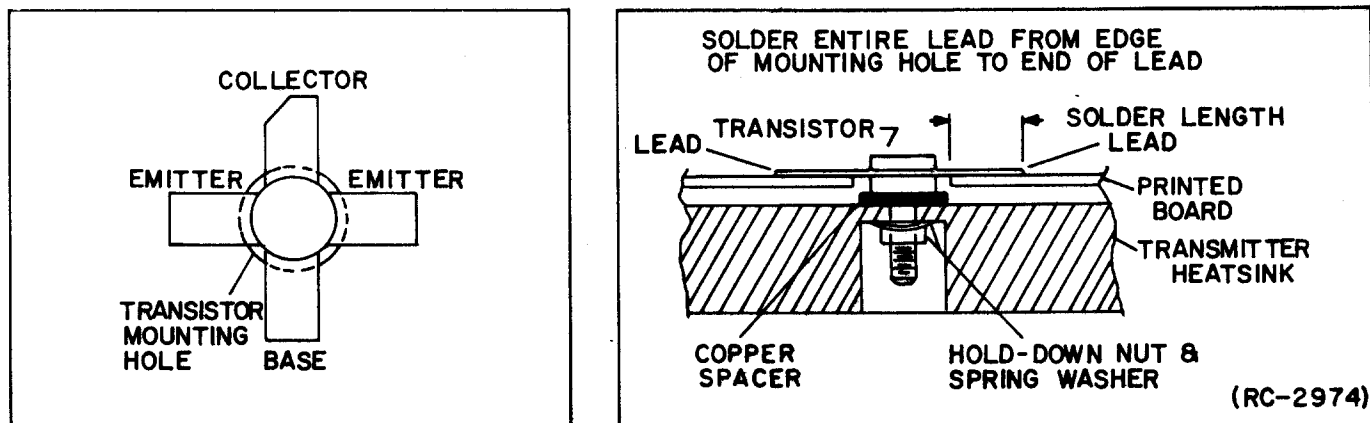
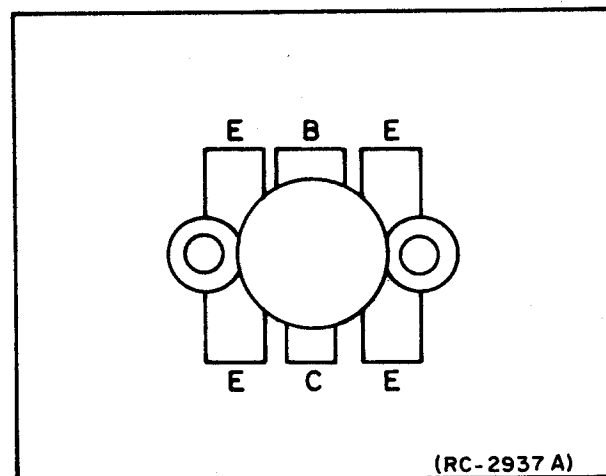

Figure 5 - Q202 Lead Identification and Mounting
Figure 6 - Q203, Q204, and Q4201-Q4204 LEAD IDENTIFICATION
1. Trim the new transistor leads (if required) to the lead length of the removed transistor. Cut the collector lead of Q202 at a 45° angle for future identification (see Figure 5). The collector lead of Q203, Q204, and Q4201 through Q4204 is identified by the smaller center lead (see Figure 6). The letter "C" on top of each transistor also identifies the collector.